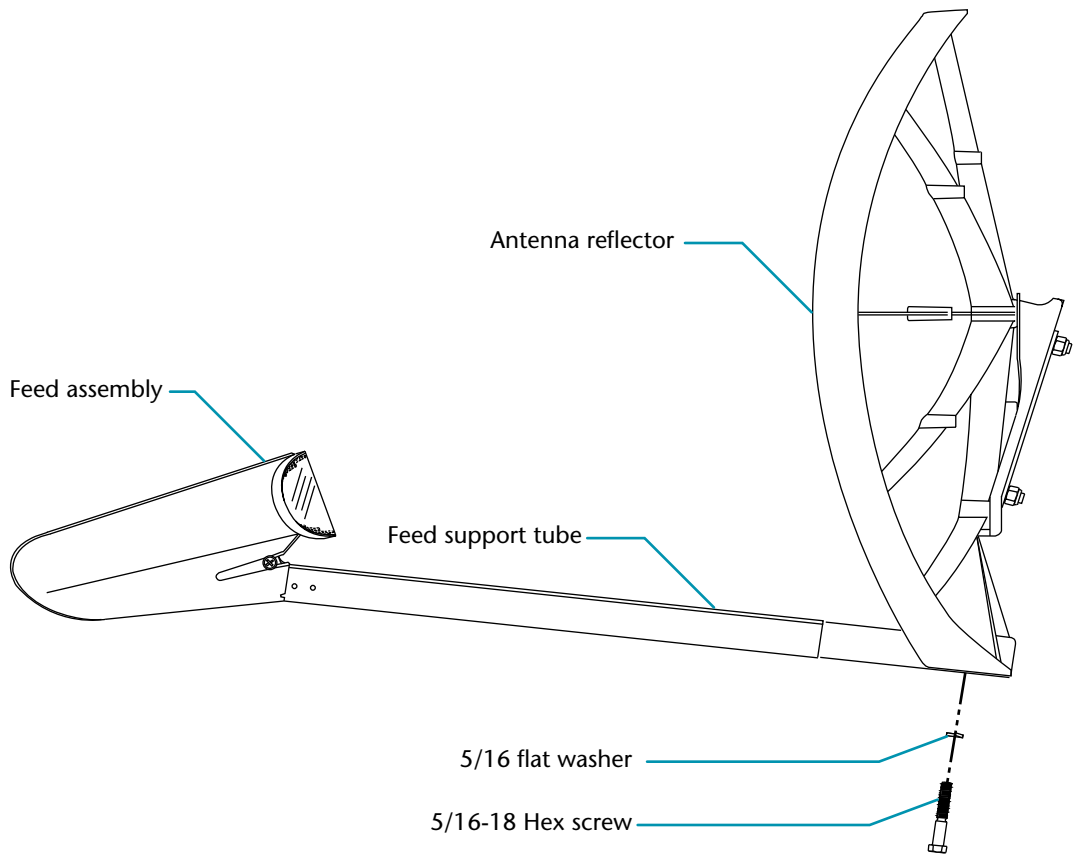

Figure 4-12. Installing feed assembly and feed support tube onto antenna reflector
1. Install the feed leg into the feed support socket on the antenna reflector (see figure 4-12).
2. Secure the feed leg with a 5/16 flat washer and 5/16-18 hex screw as shown in figure 4-12). Use a torque wrench to tighten the hex screw to 8 to 10 ft-lbs.